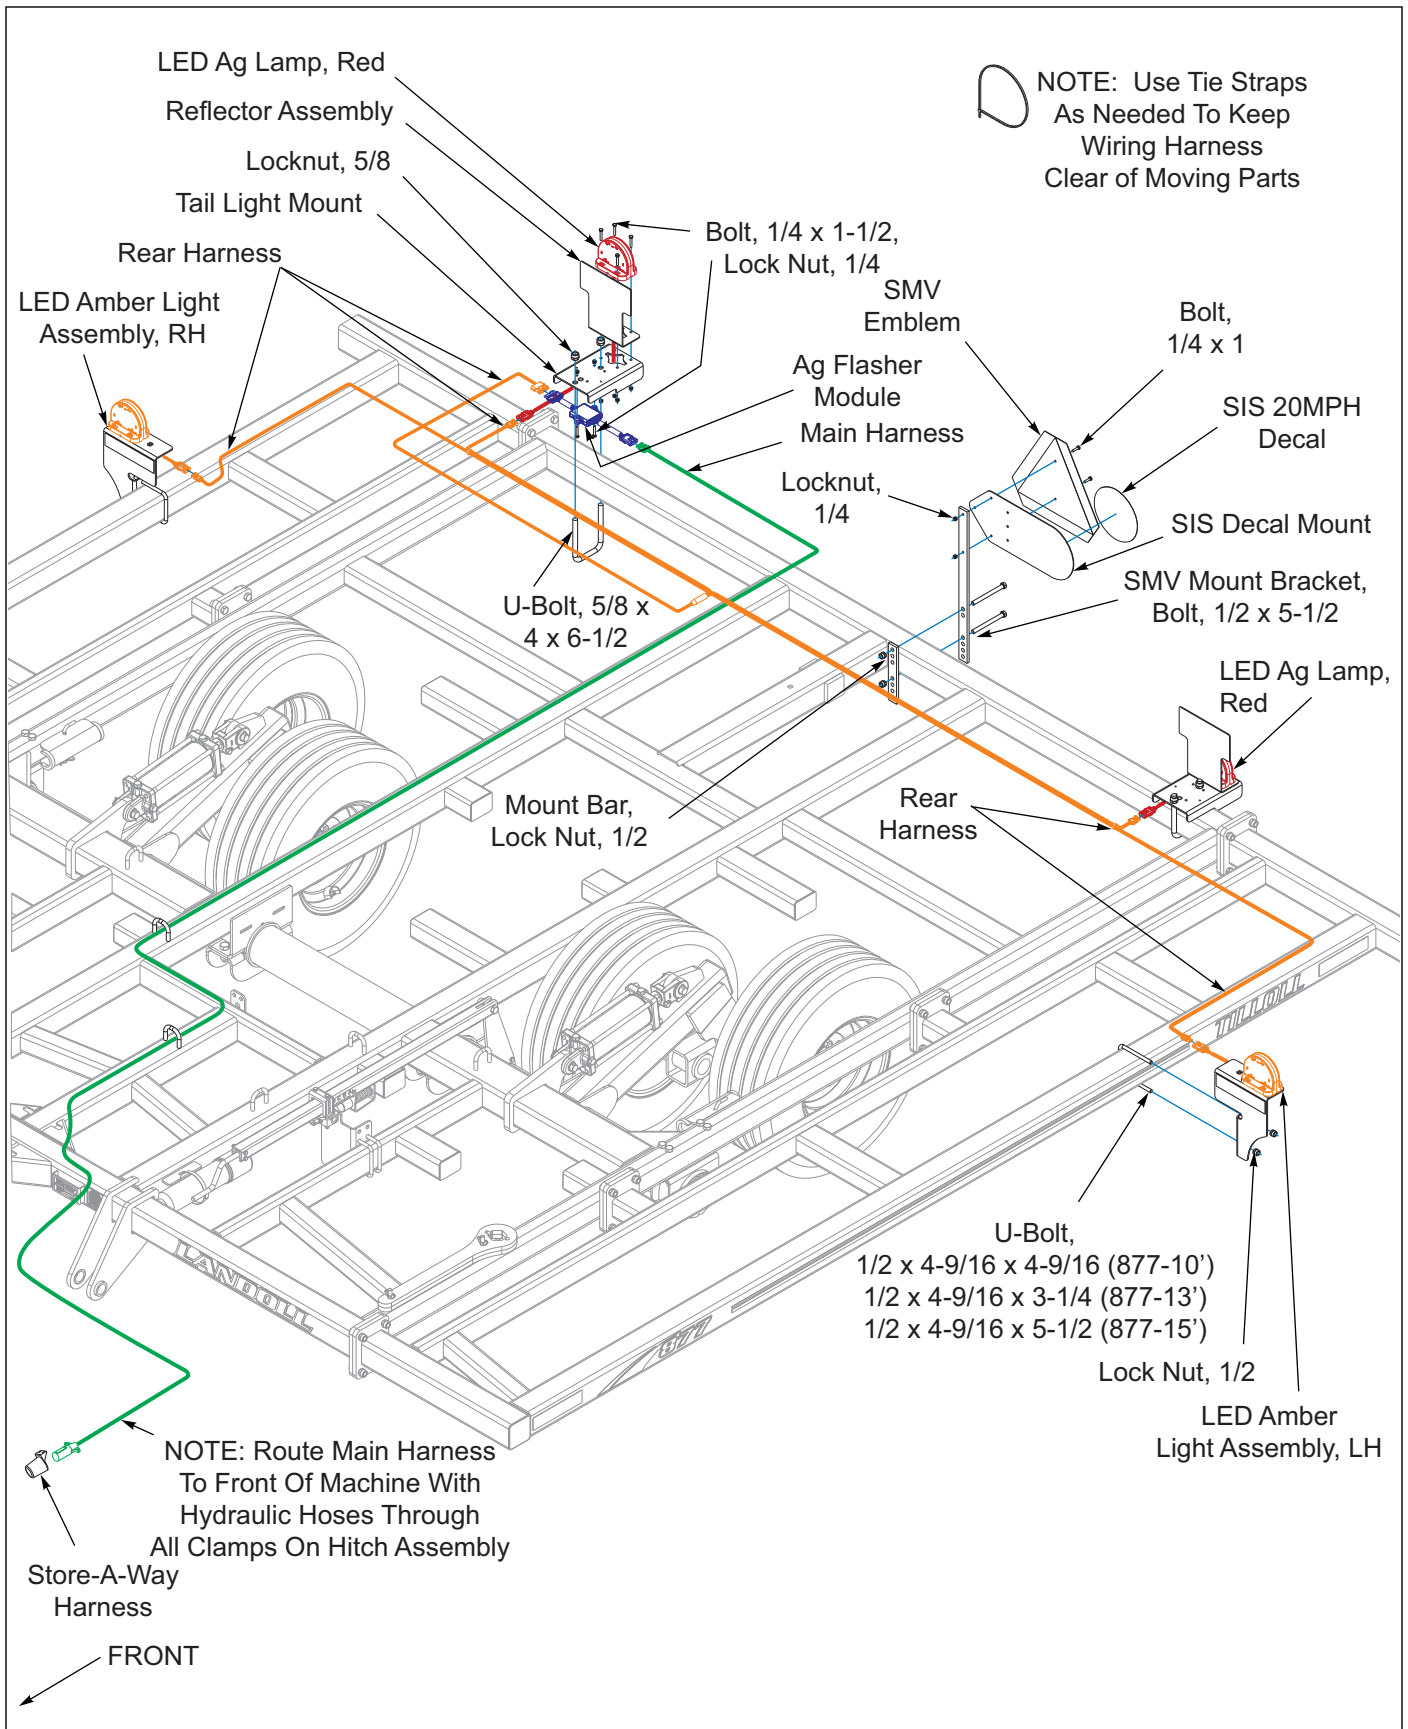

Figure 3-11: LED Light Installation
1. Attach LH and RH light bracket assemblies to center frame using u-bolt and 1/2 lock nuts **See Figure 3-11.**